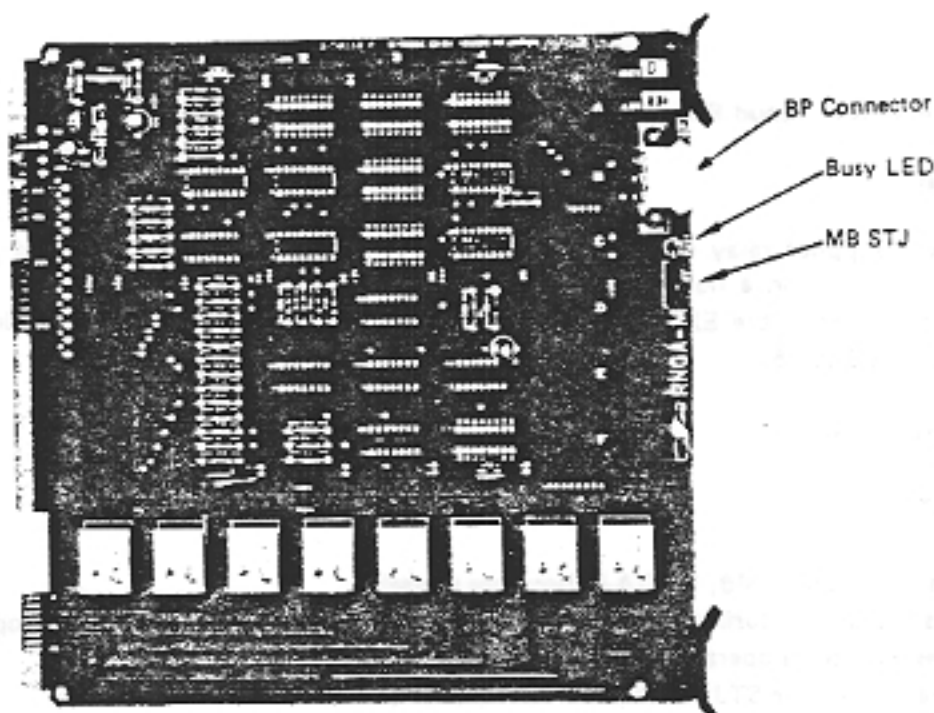

Figure 3.6.2.5.6(1) External View of RNGA-M
(3) Installation precautions
- (a) One or two RNGA-M cards can be installed per system. The one for CO1 through CO8 is installed in the Common Module, and the other for CO9 through CO16 is installed in the Expansion Module. The RNGA-M cards must be inserted in the prescribed slots (see Figure 3.6.2.2(1)), never in any other slots.